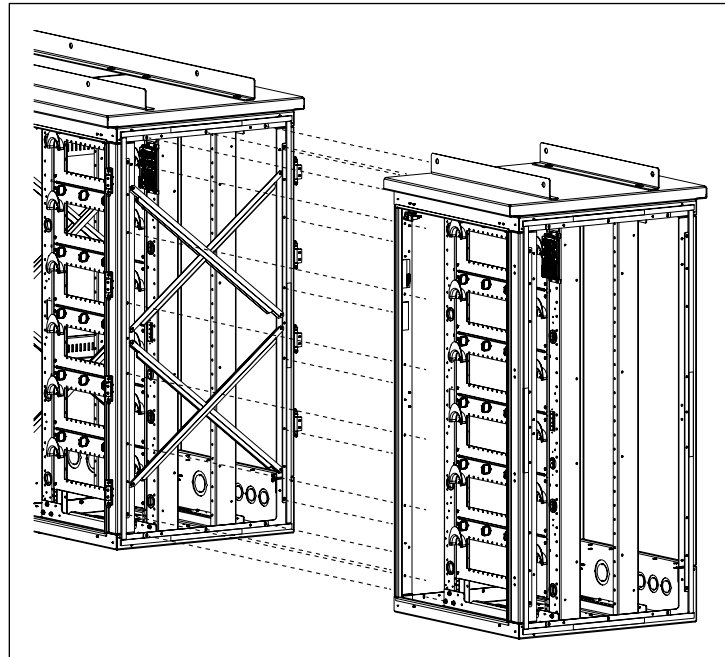

Figure 21 Connect ME-x Extension Bay to MC-x
3. Mount the ME-x bay as described in the Mounting section of this document. Use the (18) 1/4-20 hex screws, washers, and nuts that ship with the ME-x bay to secure the two bays together (Figure 21). Position hardware so that the screws and washers are inside the ME-x bay and the nuts are inside the MC-x bay.